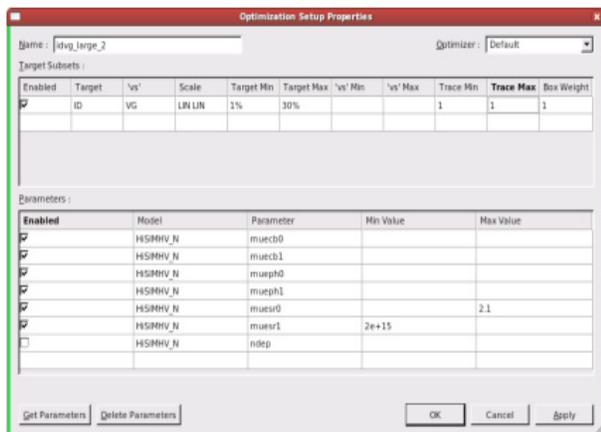

Figure-2 Utmost IV Optimization Setup Property for idvg\_large\_2 .
**Optimization Setup Property: idvg\_large\_2 (Figure-2)**